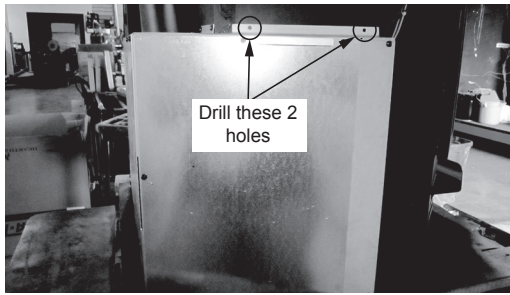

Figure 22.1
12. Using the electric drill with #26 drill bit; drill 2 holes into the left side of the hopper. Add two screws to secure shroud assembly to the appliance (**Figure 22.1**).